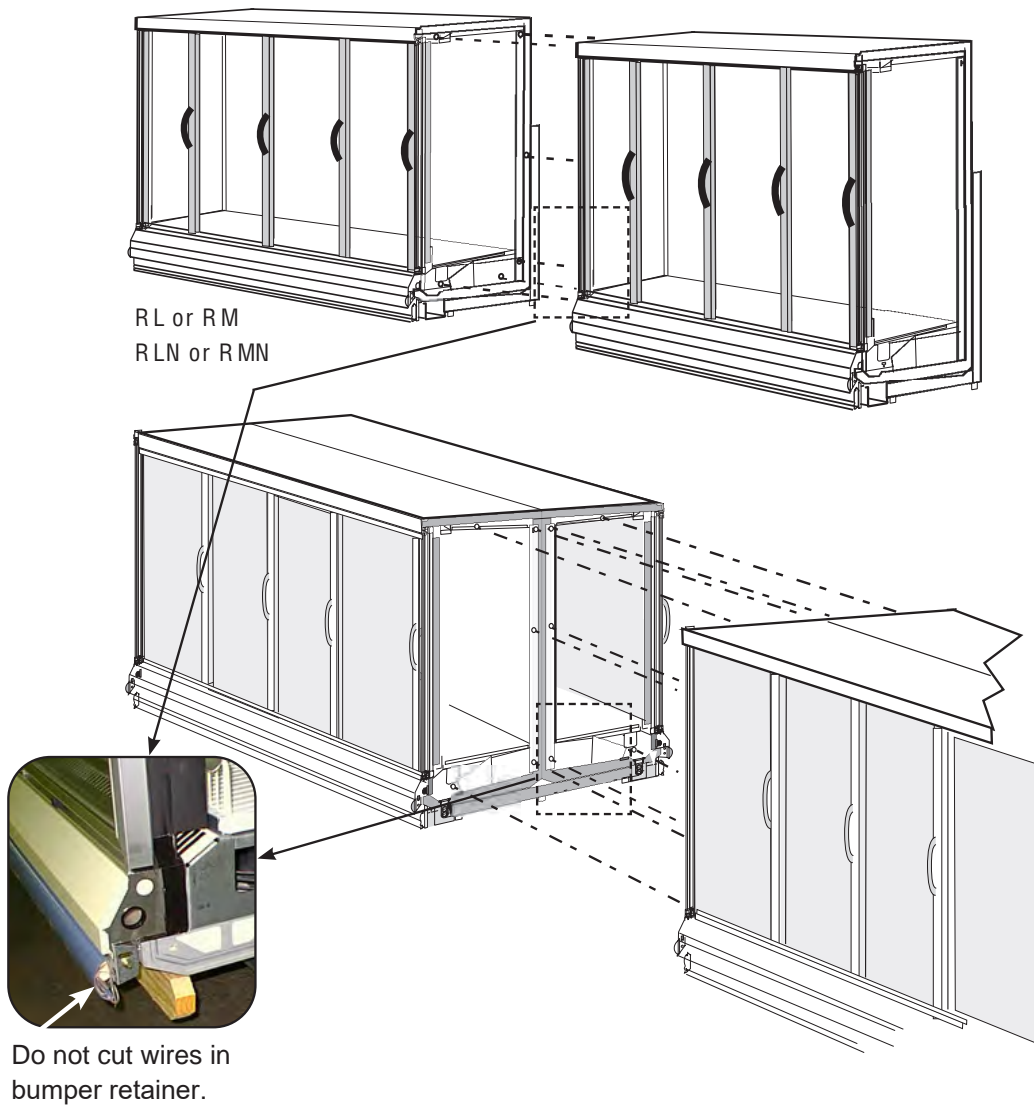

Figure 6. Move Cases Together
6. Move the second merchandiser against first, mating alignment pins with corresponding holes. Use care when pushing the cases together. RL / RM / RLN / RMN / RLNI: Do not cut wires routed along the front bumper retainer. See detail in Figure 6. The RMTM / RLTM / RMTD has no alignment pin and the wireway is at the top front.